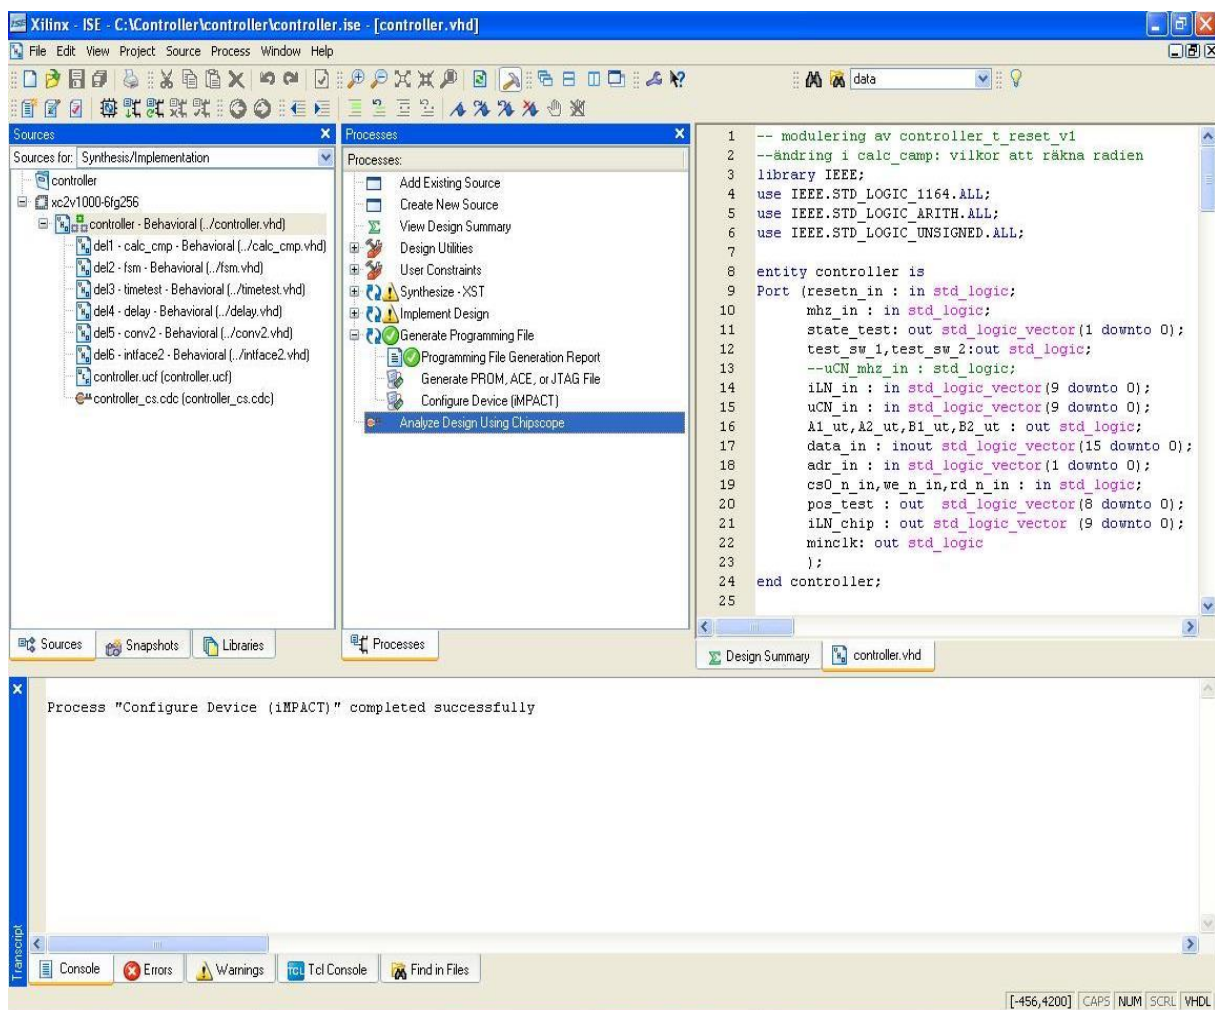

Fig 3.28: Selecting option to analyze Design using Chipscope
9. Once after Configuring **iMPACT** was successful, return to the main window of the Project Navigator. Now double click on **Analyze Design Using Chipscope** in the **Processes** tab as shown in Fig 3.28.